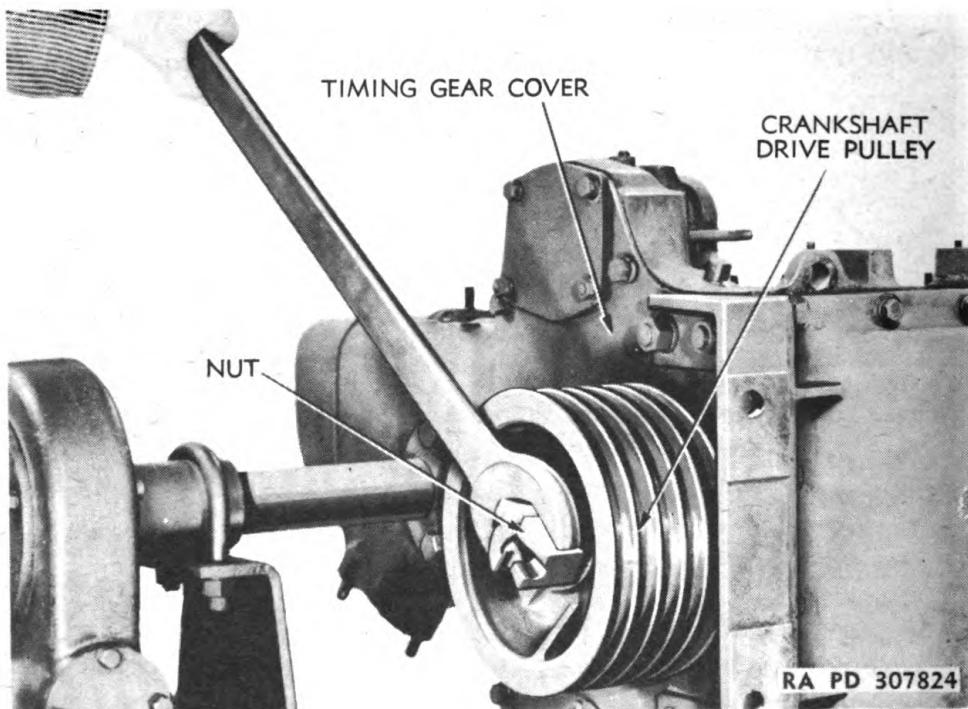

Figure 20 — Removing Drive Pulley
a. Remove Timing Gear Cover (fig. 20). Remove the three nuts and lock washers and large screw from engine support and the four cap screws and lock washers at rear of cover and remove engine support. Remove the five remaining cap screws from cover, and remove cover and oil seal assembly as a unit.